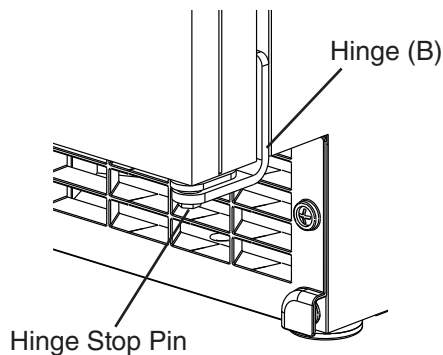

Fig. 21
- 9) Attach the door to hinge (A), then continue to maintain a hold on the door. Screw the hinge stop pin into hinge (B) until it is tight. See Fig. 21.